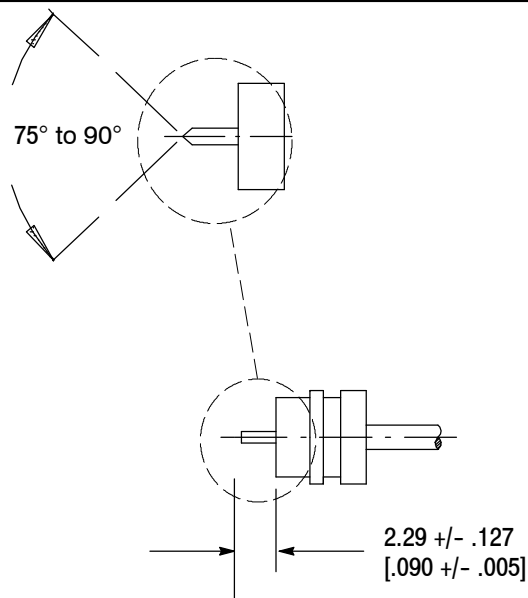

Figure 8
1. Trim the inner conductor to the length indicated in Figure 8.